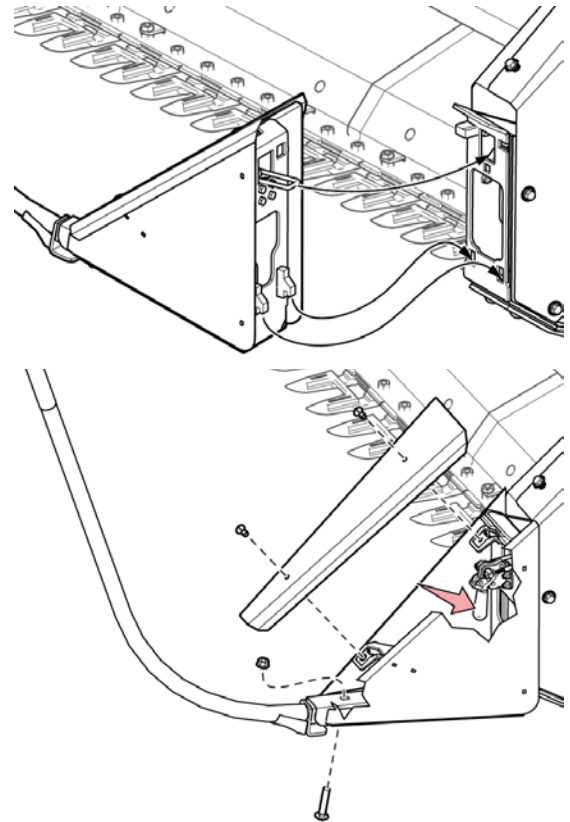

Fig. 41 - Install Crop Divider
Ensure the crop dividers are properly installed & free from material buildup. (See Fig. 41 on page 36)
- ☐ Ensure the crop dividers are properly installed & free from material buildup. (See Fig. 41 on page 36)